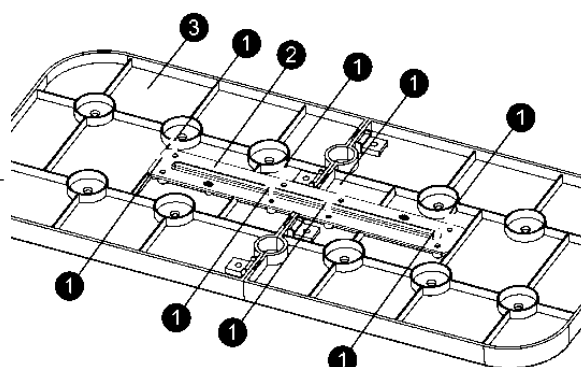

Figure 13
4. Screw the reinforcement plate to the back of the already-connected TRPs. See Figure 13.